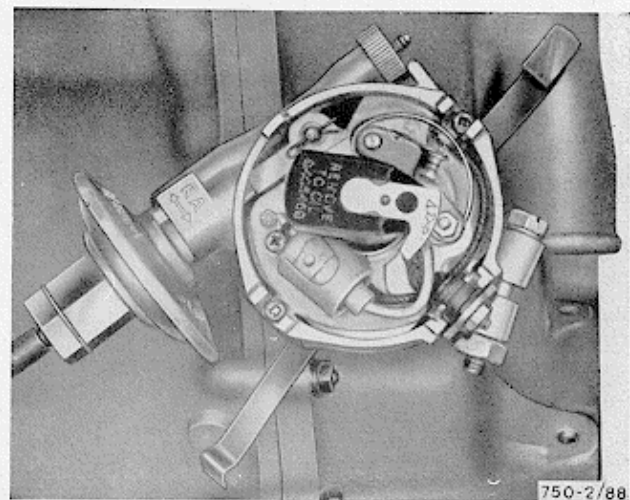

Fig. 88 - Position of the distributor body and of the rotating brush after mounting the front cover on the crankcase
- 4) Fit the cover to the crankcase and check that the brush is in the position shown in fig. 88; if necessary, again remove the cover and rotate the pump shaft until the distributor brush is in the prescribed position.